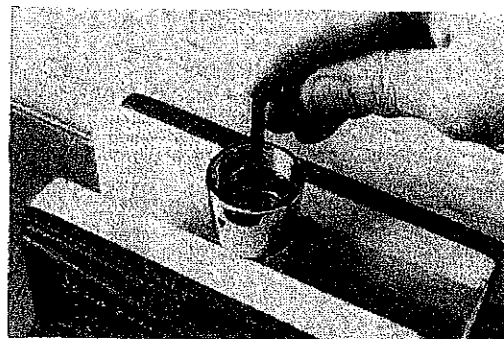

Fig. 13A
- 18a. Secure the swivel in a padded vise, with the open end of the piston cap facing up. (See fig. 13A.) Examine the swivel retainer(34) to determine whether it requires the use of a 3/16" hex-drive socket or an 11/16" nut-drive socket. Install the appropriate tool onto a socket wrench.